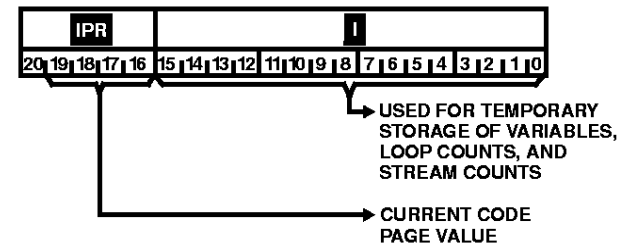

FIGURE 11. **I** AND **IPR** BIT ASSIGNMENTS
**I**: The Index Register contains 16 bits of the 21-bit top element of the Return Stack, and is also used to hold the count for streamed and loop instructions (see Figure 11). In addition, **I** can be used to hold data and can be written from **TOP**. The contents of **I** may be accessed in either the push/pop mode in which values are moved to/from stack memory as required, or in the read/write mode in which the stack memory is not affected. The ASIC address used for **I** determines what type of operation will be performed (see Table 11). When the Streamed Instruction Mode (see RTX Programmer's Reference Manual) is used, a count is written to **I** and the next instruction is executed that number of times plus one (i.e. count + 1).
**IPR**: The Index Page Register extends the Index Register (**I**) by 5 bits; i.e. when a Subroutine Return is performed, the **IPR** contains the Code page from which the subroutine was called, and comprises the 5 most significant bits of the top element of the Return Stack. See Figure 11. During nonsubroutine operation, writing to **I** causes the current Code page value to be written to **IPR**. Reading or writing directly to **IPR** does not push the Return Stack.
The data on the Return Stack takes on different meaning, depending upon whether the Return Stack is being used for temporary storage of data or to hold a return address during a subroutine operation (Figure 11).